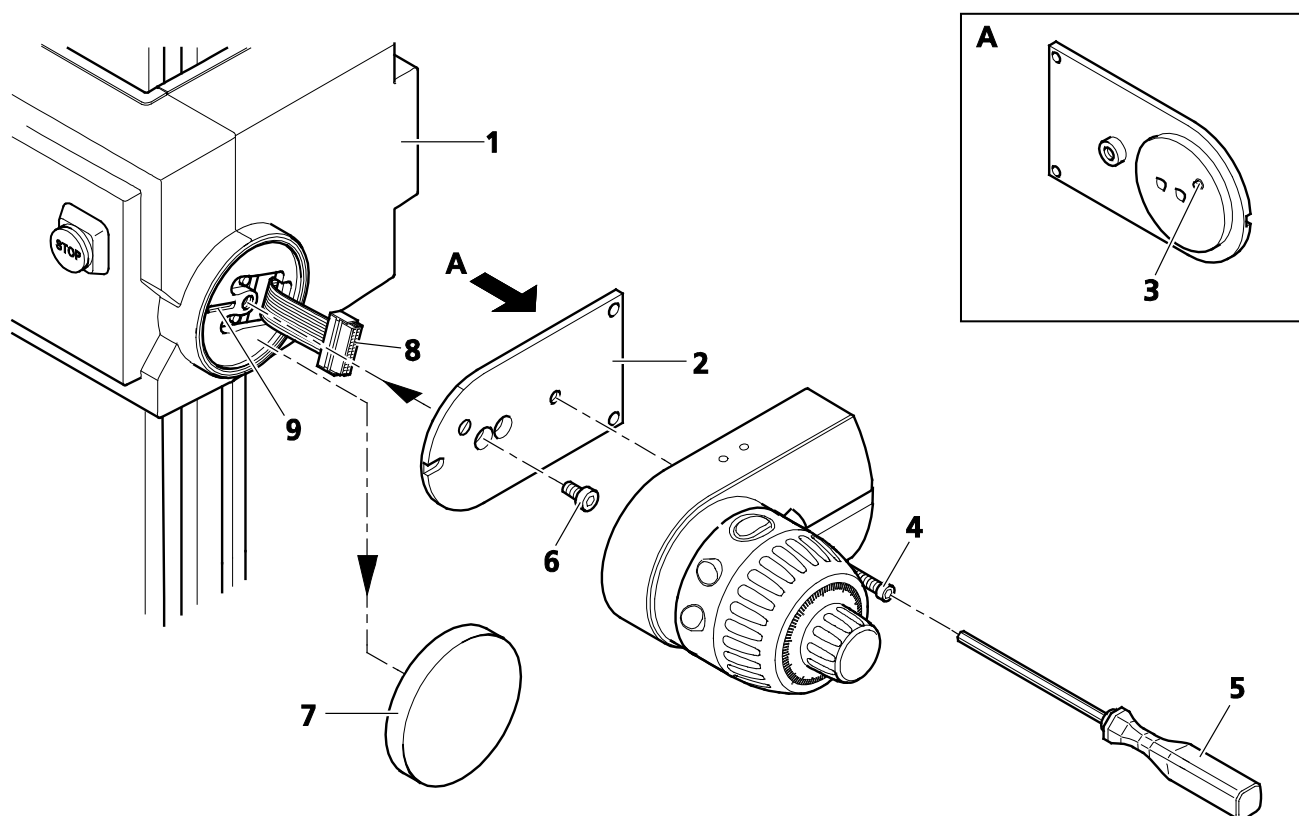
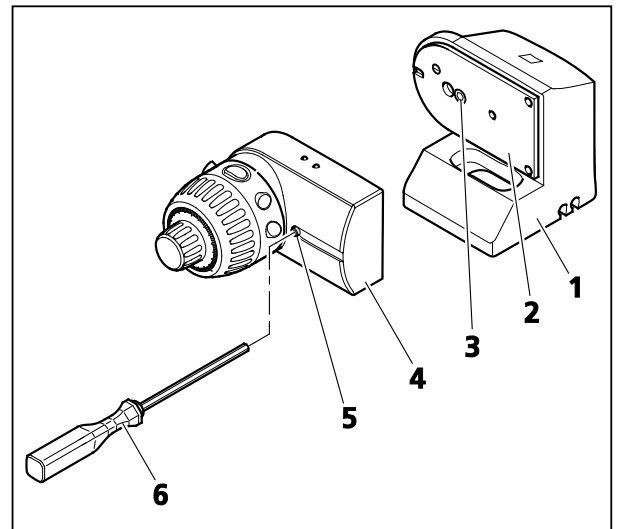

Fig. 9 Installing the MaRC control unit
Fig. 10 Mounting the MaRC on the table-top base
MaRC is a component used to control the focus motor, and may be mounted either directly on the focusing drive (Fig. 9/1) or as a table-top version with table-top base (Fig. 10/1) independently of the microscope.
- Remove the mounting plate (Fig. 9/2) from the MaRC after loosening the socket head screw (SW 3; Fig. 9/4) on the MaRC.
- Remove the cover (Fig. 9/7) on the focusing drive (Fig. 9/1).
Ensure that the connecting cable (Fig. 9/8) remains completely inside the housing, as it will not be needed.
- Attach the mounting plate (Fig. 9/2) with a screw (Fig. 9/6) securely to the flange of the focusing drive (Fig. 9/1) (or microscope body). The screw must be inserted into the left hole of the mounting plate. Please ensure that the orientation pin (Fig. 9/3) of the mounting plate is seated in the groove provided (Fig. 9/9).
- Screw the MaRC to the attached mounting plate (Fig. 9/2) with a socket head screw (SW 3; Fig. 9/4) using a ball-head screwdriver (Fig. 9/5).
- Secure the mounting plate (Fig. 10/2) with screw (Fig. 10/3) on the table-top base (Fig. 10/1). The screw must be inserted into the right hole of the mounting plate.
- Screw the MaRC (Fig. 10/4) to the attached mounting plate with a socket head screw (SW 3; Fig. 10/5) using a ball-head screwdriver (Fig. 10/6).